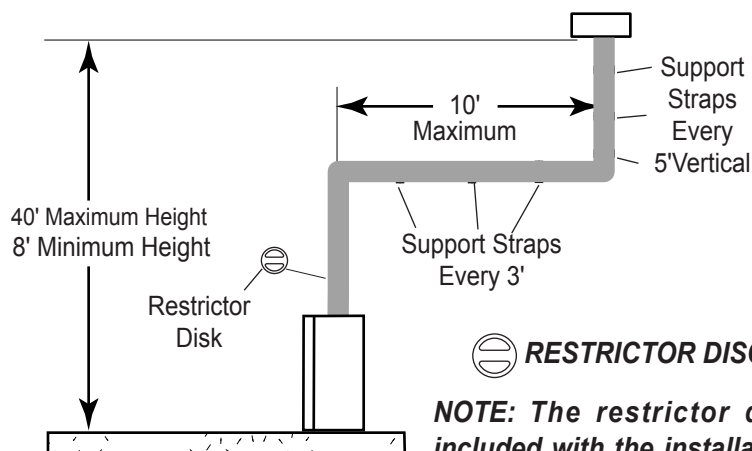

Figure 25- Support Straps for Horizontal Runs
- Vertical installations up to 50' (15m) in height. Up to a 10' (3m) horizontal vent run can be installed within the vent system using a maximum of two 90° elbows. See Figure 25.
NOTE: If an offset is needed to avoid obstructions, you must support the vent pipe every three (3) feet. Use wall straps for this purpose. See Figure 25, page 22. Whenever possible, use 45° elbows instead of 90° elbows. The 45° elbow offers less restriction to the flow of the flue gases and intake air.